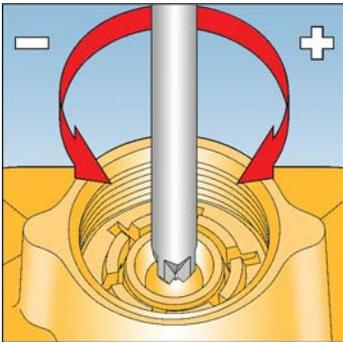

Fig. 7
- 8) If UPSS fitted, insert a pozidriv screw driver (No.2 point) into UPSS adjusting screw in bottom spring holder. See Fig. 7.
23) Slowly turn UPSS adjusting screw clockwise (+) until UPSS device trips off. See Fig. 7.